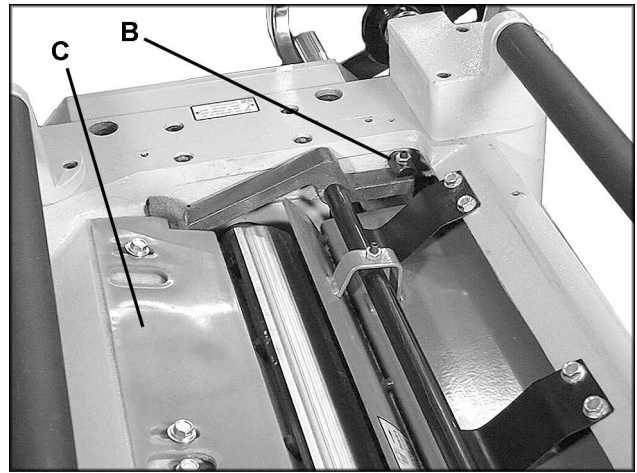

Fig. 28
2. Loosen the lock nuts (B, Fig. 28) on both ends of the pressure bar and turn the set screws as needed.
3. When the pressure bar contacts the top of the gauge block, tighten the lock nuts (B, Fig. 28).
The chip deflector (C, Fig. 28) keeps wood chips from falling into the outfeed roller. The deflector should be set approximately 1/16" from the tip of the knives. Make sure the deflector's front edge is beveled to match the shape of the cutterhead.